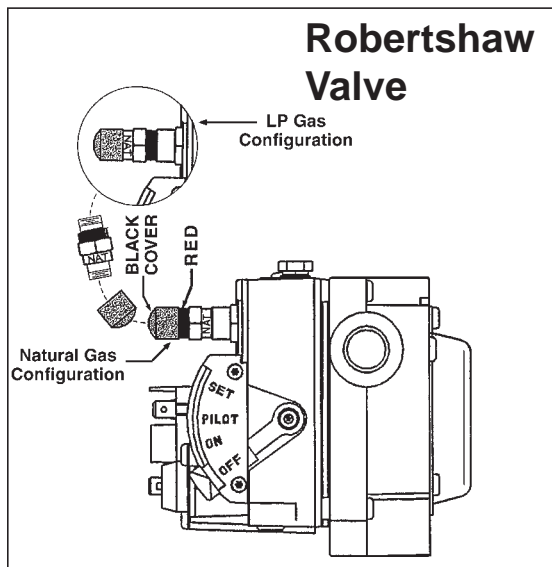

Figure 34. Convertible Pressure Regulator
- h. For the Robertshaw gas valve with the regulator converter (Figure 34), remove the black cover and unscrew the converter located on top of the gas valve. Invert the converter. (For "LP" the red ring will be located at the bottom and the "LP" stamping on the converter will appear right side up.) Then screw converter back into the regulator, hand tight plus 1/8 turn, and replace the black cover onto the converter top to protect the threads.